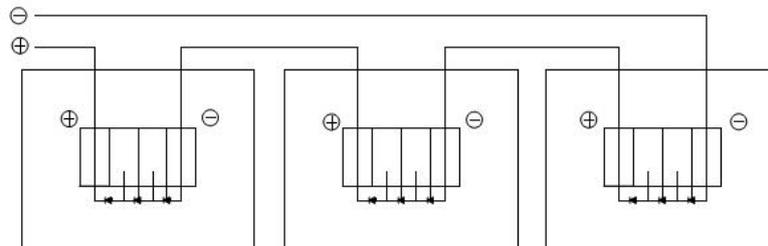
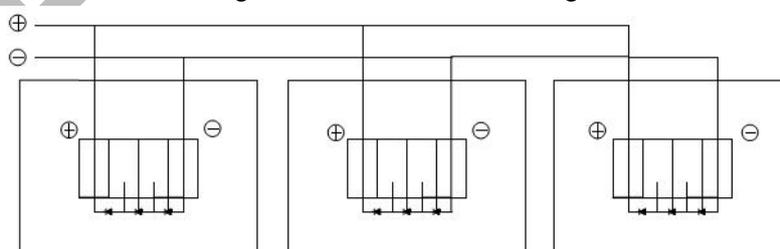

图 11 串联增加电压
图 12 并联增加电流
- 2) 为了确保系统的正常运行，在将组件连接到电池或者其他组件时，请注意观察电缆线的极性（图 11 和 12）。如果连接不正确，旁路二极管可能会损坏。
In order to ensure the normal operation of the system, make sure the modules polarity is observed ( Fig.11 and Fig.12 ) when the modules are connected to the battery or other modules. Reverse polarity might cause damage to the protective diodes.
- 4) 组件串联连接电压累加。从一块组件的正极接线端连接到下一块组件的负极接线端。图 11 显示的是组件串联连接。
PV modules can be wired in series to increase voltage. Connect wires from the positive terminal of one module to the negative terminal of the next module. Fig.11 shows modules connected in series.
- 5) 组件并联连接电流累加。从一块组件的正极接线端连接到下一块组件的正极接线端。图 12 显示的是组件并联连接。
Connect PV modules in parallel to increase current. Connect wires from the positive terminal of one module to the positive terminal on the next module. Fig.12 shows modules connected in parallel.
Fig. 11 in series to increase voltage
Fig. 12 in parallel to increase current